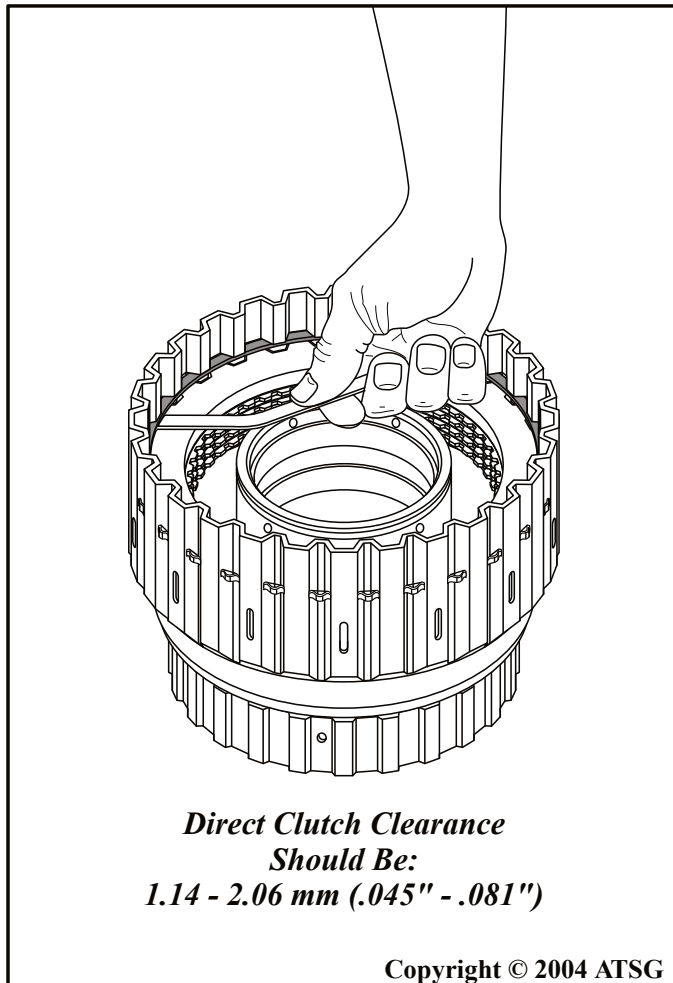

Figure 136
13. Check the direct clutch clearance using feeler gauge, as shown in Figure 136, between the backing plate and the snap ring.
14. The direct clutch clearance should measure; 1.14 - 2.06 mm (.045" - .081"), as shown in Figure 136.